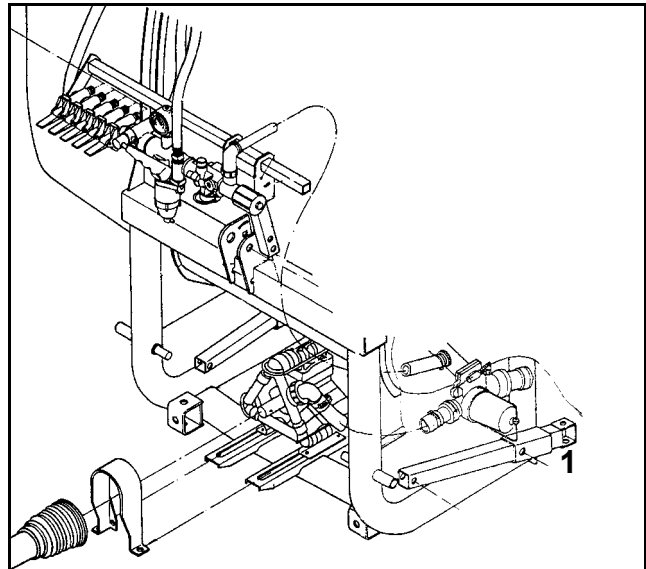

Fig. 27
- Slide the two parking supports (Fig. 27/1) into working position and arrest them.
- Pull out and arrest both parking supports (Fig. 27/1).